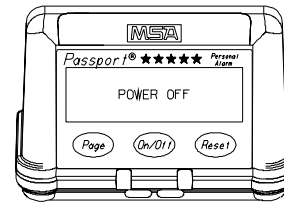

Figure 2-11.
- For instruments with software versions lower than 1.2, A long beep sounds and the FiveStar Alarm turns OFF automatically (FIGURE 2-11):